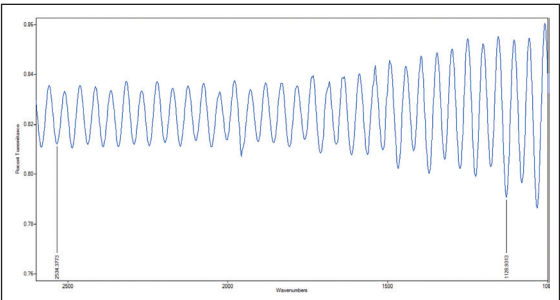

Figure 1. Spectrum of 0.1 mm pathlength Super-Sealed Cell
3. Select a region of the spectrum where the fringing pattern is distinct – free of interference (water bands, etc.) and note beginning and ending point values in  $\text{cm}^{-1}$  for a significant number of fringes. Figure 1 shows the spectrum of a 0.1 mm Super-Sealed Cell.
In the example shown in Figure 1,  $\lambda_1 = 2534.38 \text{ cm}^{-1}$ ,  $\lambda_2 = 1138.93 \text{ cm}^{-1}$  and  $N = 29$ . From this we calculate the actual pathlength to be 0.104 mm.